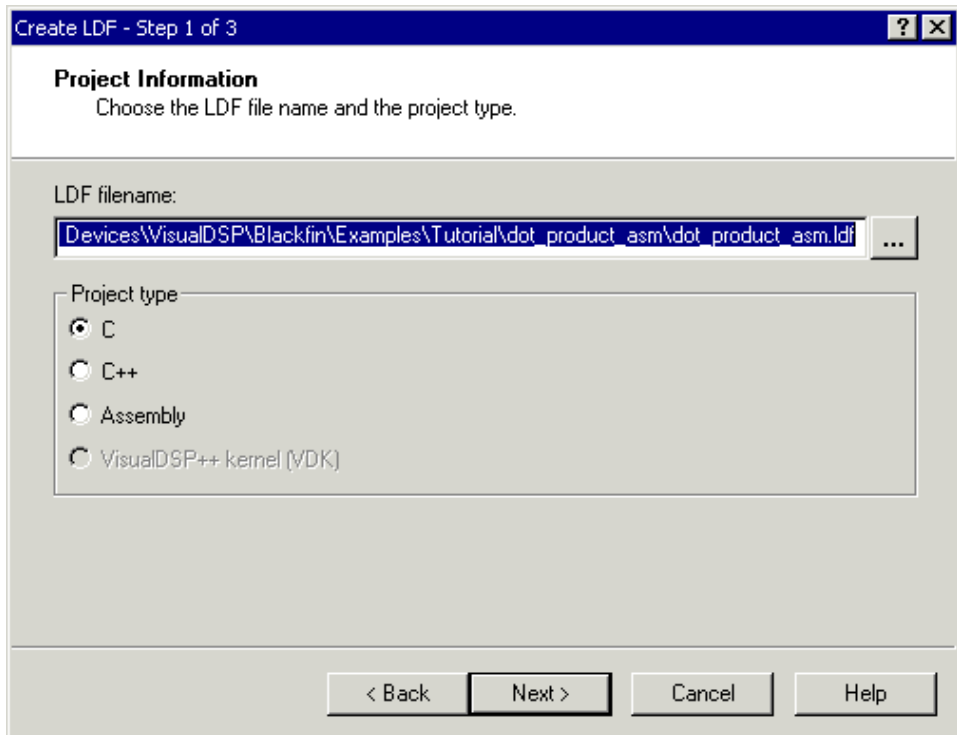

Figure 2-15. Create LDF – Step 1 of 3 Page
2. Click **Next** to display the **Create LDF – Step 1 of 3** page, shown in Figure 2-15 on page 2-23.